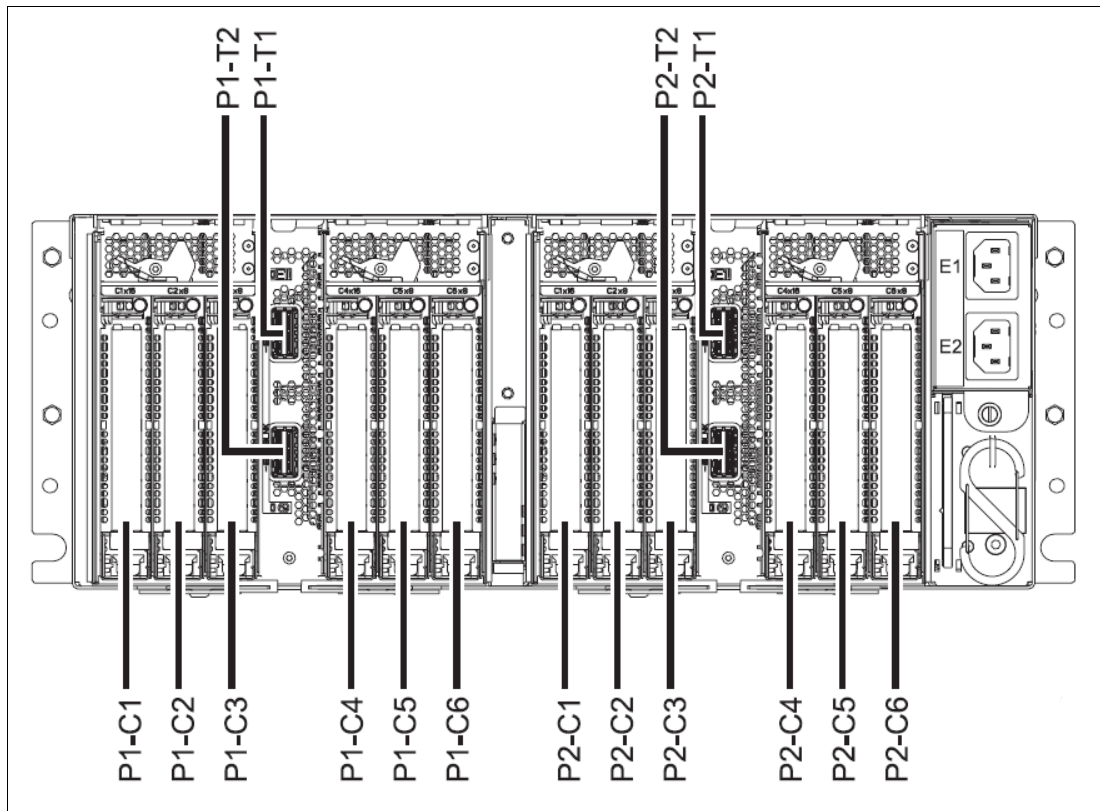

Figure 2-24 Connector locations for the PCIe Gen3 I/O Expansion Drawer
Figure 2-24 shows connector locations for the PCIe Gen3 I/O Expansion Drawer.
a. For information about how the slot numbers that are listed related to physical location codes, see Figure 2-24 on page 97.